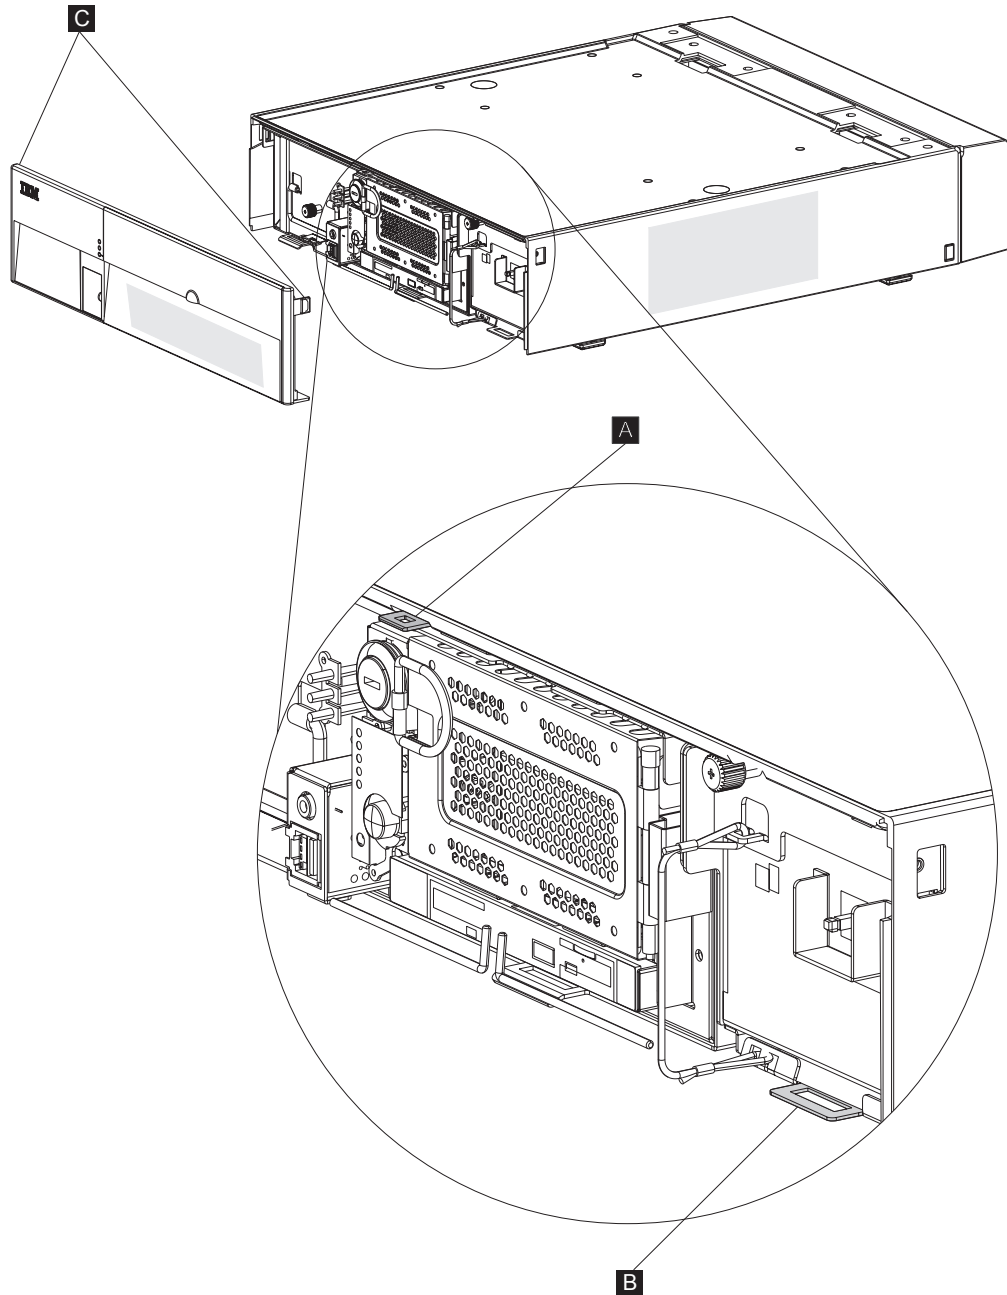

Figure 23. Placement of bezel
1. Locate the hooks on the bottom of the front bezel and align these hooks with the slots on the frame (**B** in Figure 23).
2. Push inward on the side tabs (**C** in Figure 23) and insert one end and then the other. Push gently on the bezel to close it, ensuring that the center tab (**A**) locks into place.